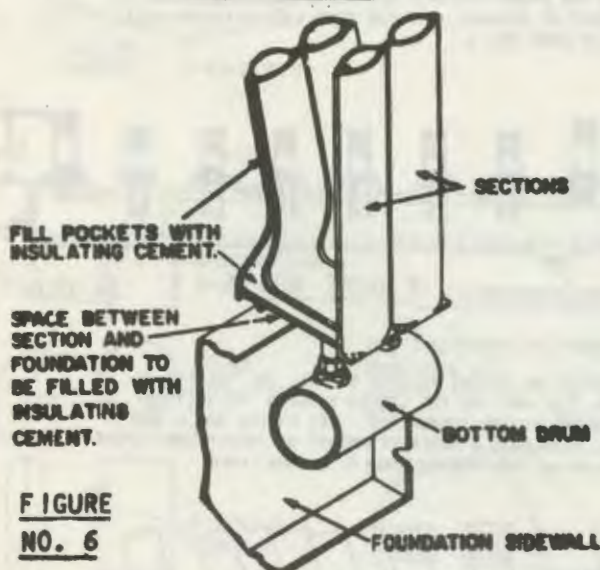

FIGURE NO. 6
INSULATING CEMENT IS USED TO FILL THE POCKETS OF THE SECTIONS AND THE SPACES BETWEEN THE SECTIONS AND THE BOILER FOUNDATION. SEE FIGURE NO. 6 AND NO. 7. PREPARE A MODERATE AMOUNT OF INSULATING CEMENT FOLLOWING THE MANUFACTURER'S INSTRUCTIONS.
1. CLEAN THE NIPPLE TAPPING THREADS OF THE BACK SECTION (3345). PLACE IT ON THE BOILER FOUNDATION TIPPING SLIGHTLY TOWARD THE REAR AND SUPPORT SECURELY FROM THE REAR. FILL THE POCKET AT THE BASE AND FIREPOT SIDE OF THE SECTION WITH INSULATING CEMENT. SEE FIGURES NO. 6 AND NO. 7.